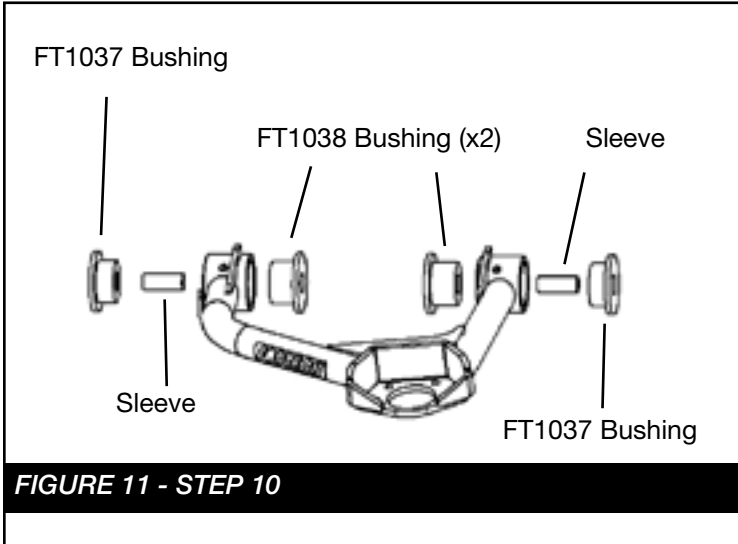

FIGURE 11 - STEP 10
10. Locate the new Fabtech control arms, two FT1038 bushings, two FT1037 bushings, two FT84 grease zerks, and two sleeves. Using the supplied grease packet, grease the bushings and sleeves before installing into the control arm. **SEE FIGURE 11**